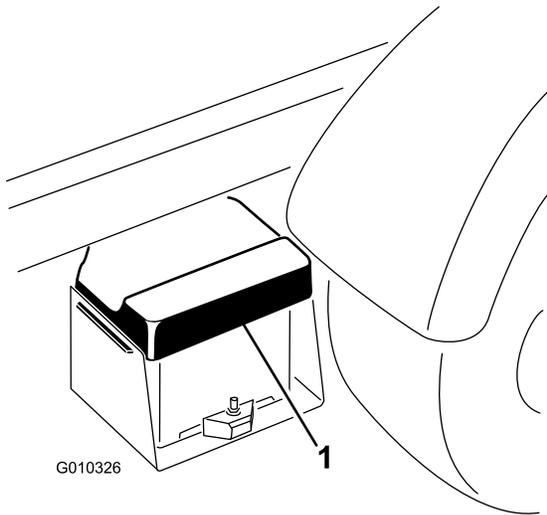

Figure 61
1. Squeeze the battery cover to release the tabs from battery base, and remove the battery cover from the battery base (Figure 61).